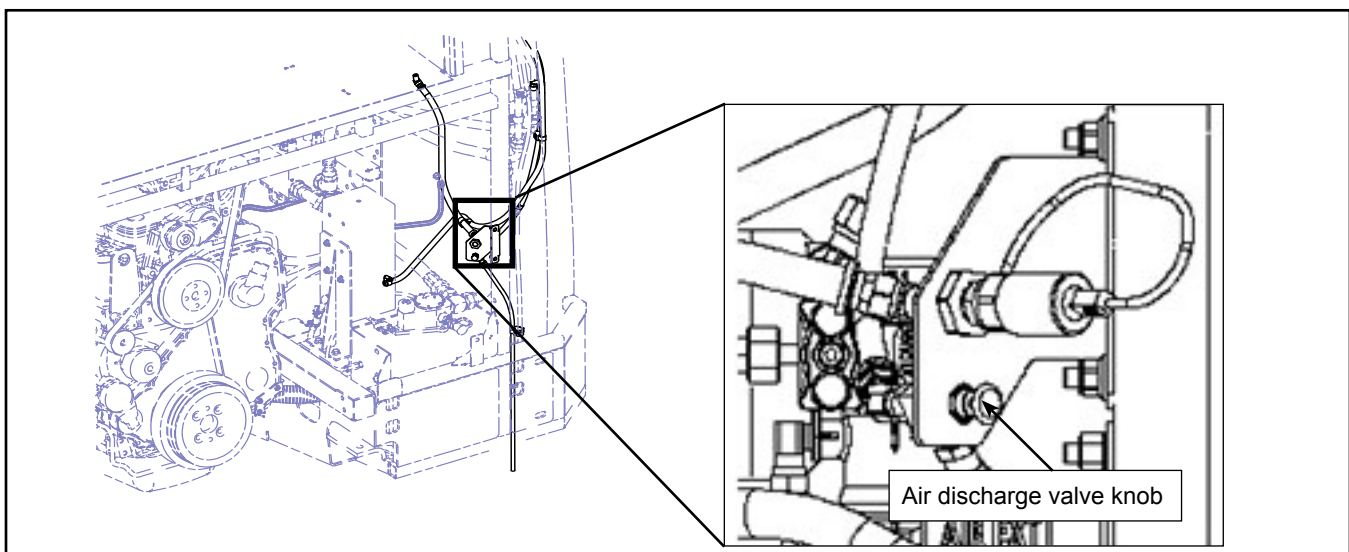

Figure 3 - Location of the Air Discharge Valve Knob in the Engine Compartment
- 1.7. Release pressure using the air discharge valve knob located on the coolant quick connect fitting bracket in the rear right portion of the engine compartment. See Figure 3.